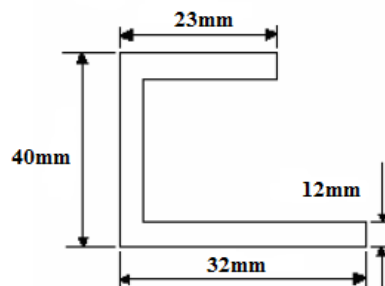

Fig.1
- Determine the shear centre of the unsymmetrical section shown in Fig.1 Take same thickness throughout the cross section.